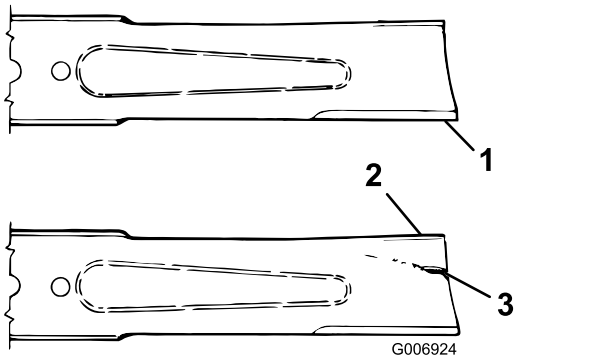

Figure 97
3. Examine the cutting ends of the blade carefully, especially where the flat and curved parts of the blade meet (Figure 97).
4. If wear is noticed (Figure 97), replace the blade; refer to Servicing the Blade Plane (page 65).